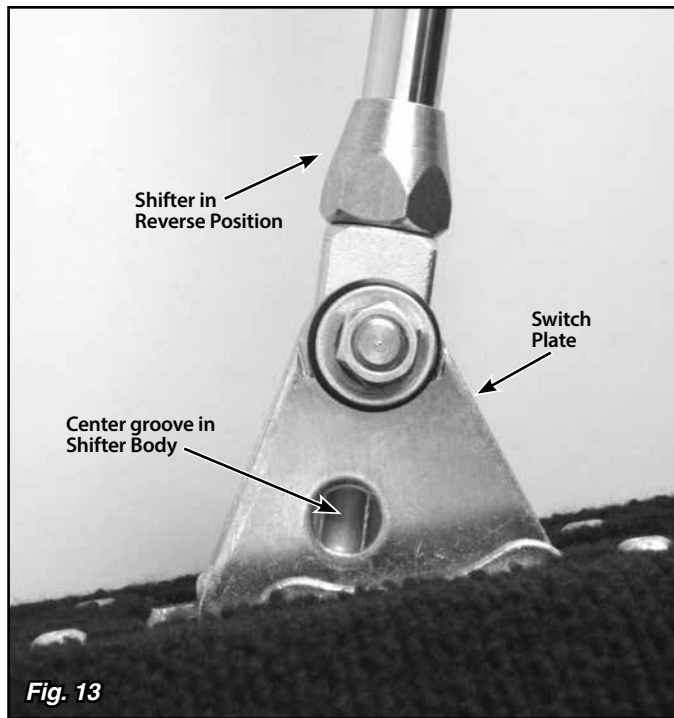
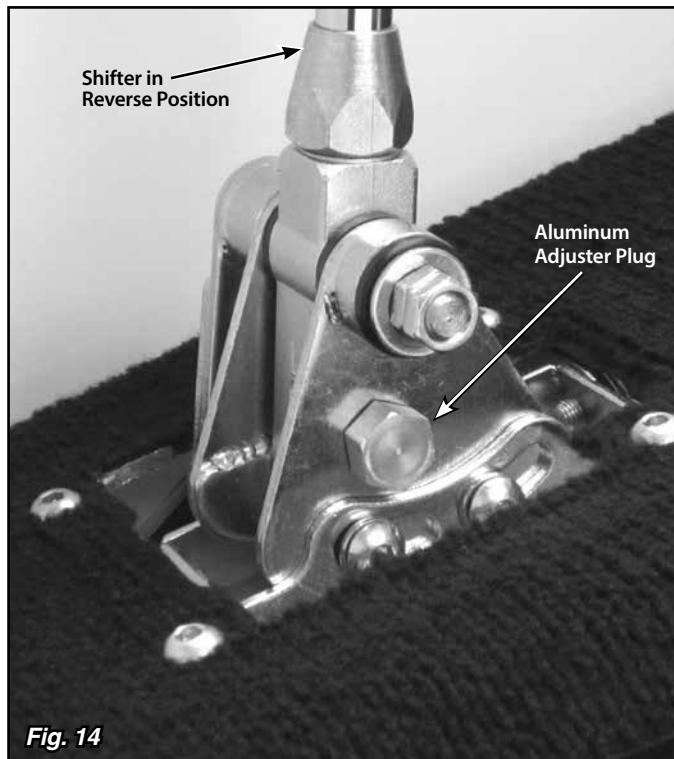

Fig. 13
Fig. 14
Step 19: Put the shifter into the Reverse position. Reposition the switch plate so that the hole in the switch plate lines up with the center groove in the shifter body. Fig. 13 Screw the provided aluminum adjuster plug into the neutral safety switch opening. Wiggling the switch plate slightly forward and back while you are screwing the aluminum adjuster plug in will help get the shifter body centered on the adjuster plug. Fig. 14